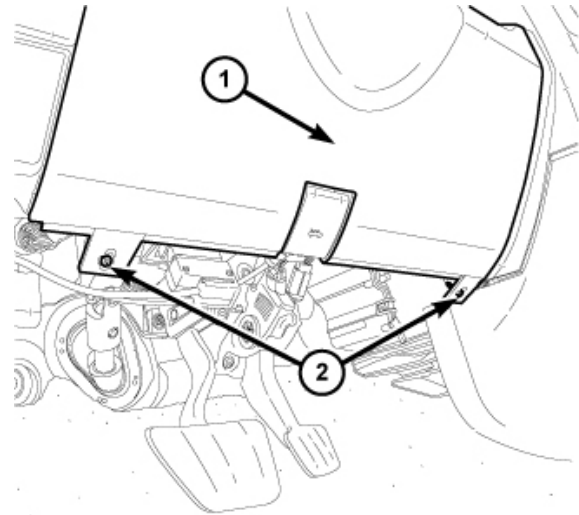

Figure 8 – Steering Column Opening Cover
18. Using a trim stick C-4755 or equivalent, disengage the retainer clip that secures the hood release to the steering column opening cover, and remove the hood release handle from the cover (Figure 8).
19. Remove the two fasteners (2) that secure the bottom of the steering column opening cover (1) to the instrument panel (Figure 8).
10. Install the two fasteners (2) that secure the bottom of the steering column opening cover (1) to the instrument panel and tighten securely (Figure 8).
11. Engage the retainer clip that secures the hood release to the steering column opening cover (Figure 8).